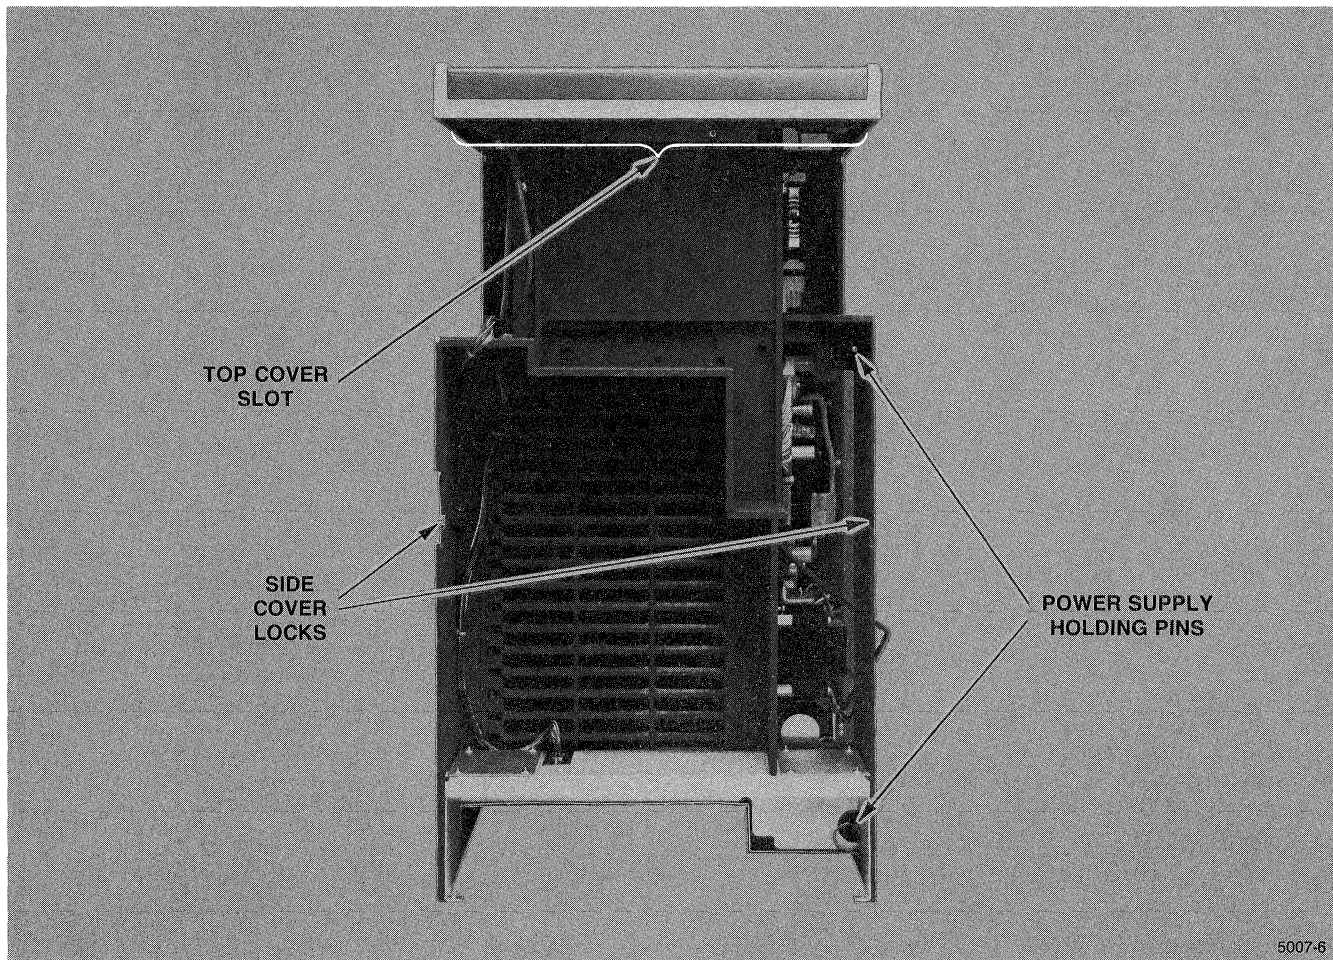

Figure 13. Top View (Top Cover Removed).
5. Pull the two power supply holding pins up to remove (Figure 13).
- b. Insert the front of the top cover into the slot in the chassis front (Figure 13). Slide the top cover toward the front of the instrument and press it down into position. Replace the securing screws.